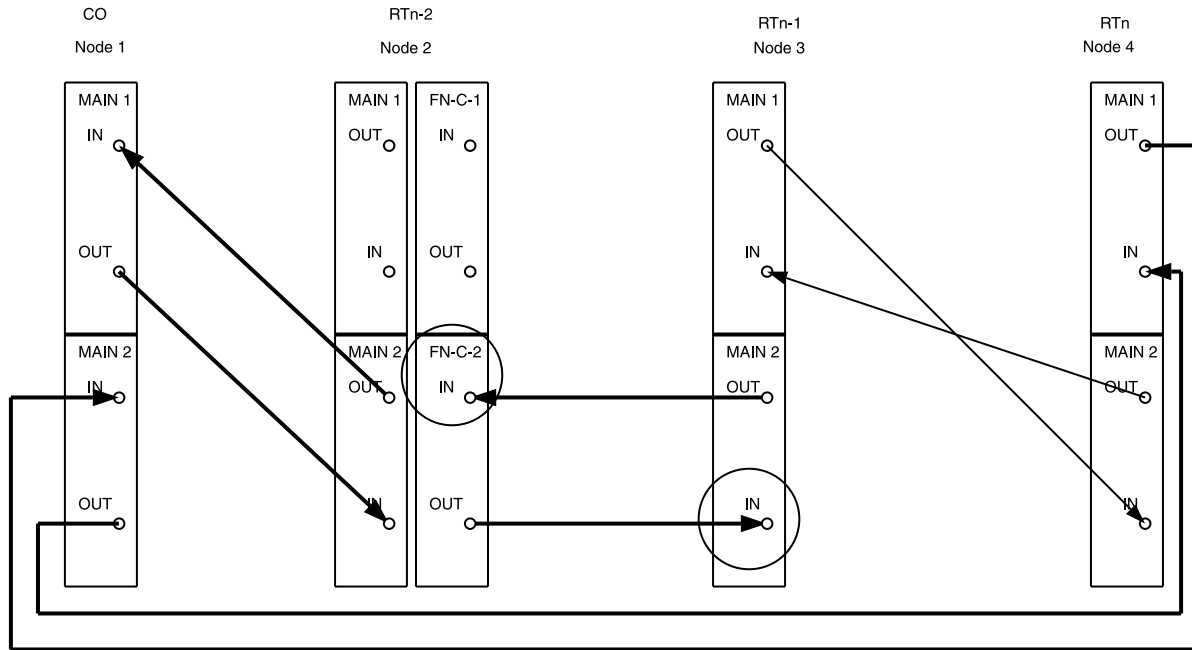

Figure 21 – DDM-2000 OC-3 Drop or Add/Drop Network to Ring Upgrade
43. At Node 2 (RTn-2) and Node 3 (RTn-1), use the **switch-line:main:pri=manual** command to switch service to the protection line (**main-2 OLIU active**). (See Figure 21.)
44. At Node 3 (RTn-1), disconnect the optical fibers from **MAIN 1 OLIUs**. At Node 2 (RTn-2), disconnect the optical fibers from **FN-C-1 OLIUs**. (See Figure 21.)
45. Connect optical fiber from Node 3 (RTn-1) **MAIN 1 OUT** to Node 4 (RTn) **MAIN 2(P) IN**. Connect optical fiber from Node 3 (RTn-1) **MAIN 1 IN** to Node 4 (RTn) **MAIN 2(P) OUT**. (See Figure 21.)